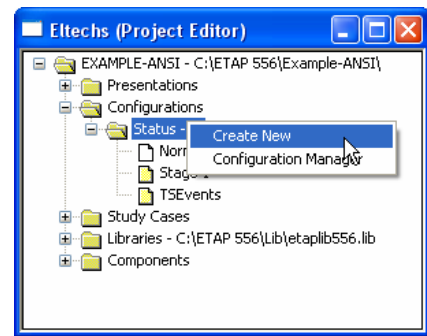

Fig. 2
- (c) Click “Create New” pop-up command. See Fig. 2.
- (b) Click “Configuration Manager” pop-up command. See Fig. 2.